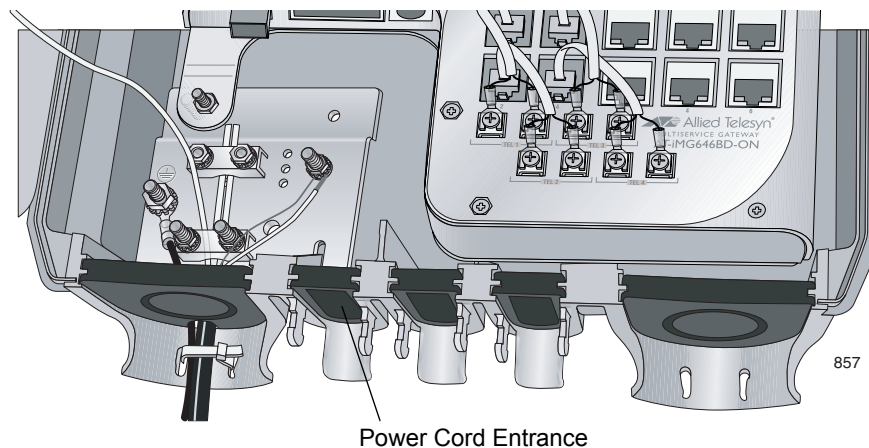

Figure 34. Power Cord Entrance
1. Remove the grommet from the power cord entrance as shown in Figure 34, cut a 1/4" "X" in it, and put it back in place.